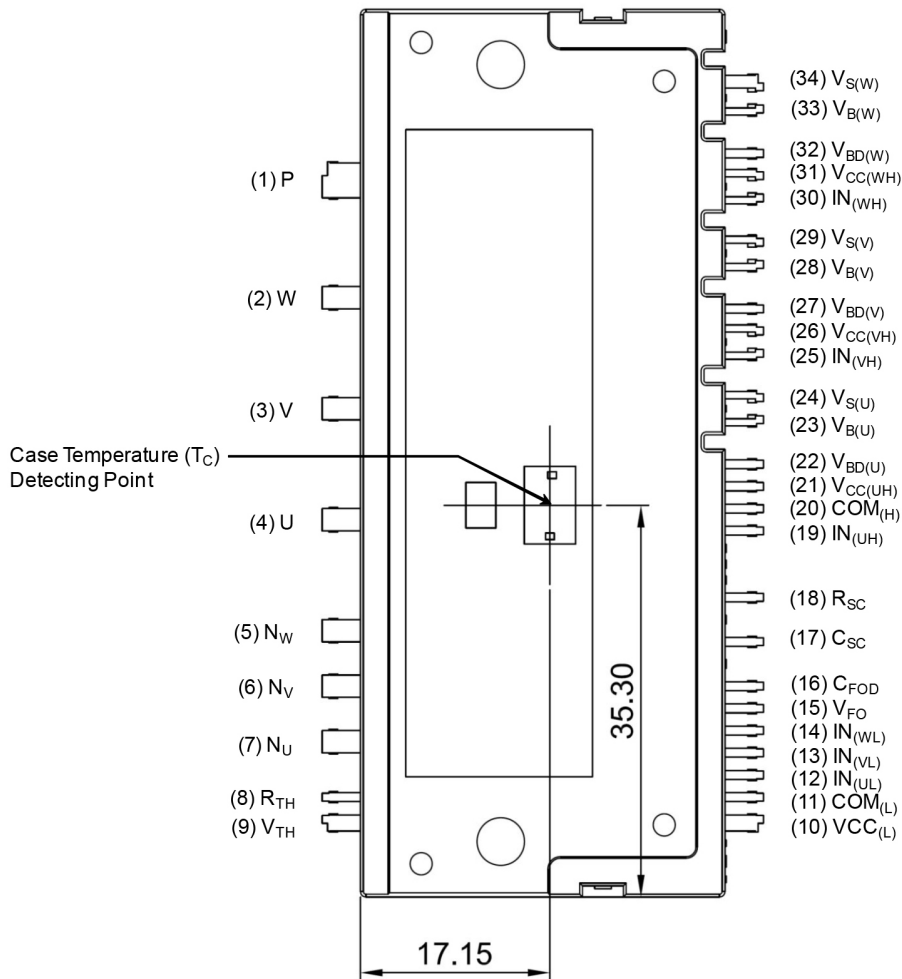

Figure 1. Top View
5. For the measurement point of case temperature ( $T_C$ ), please refer to Figure 1.